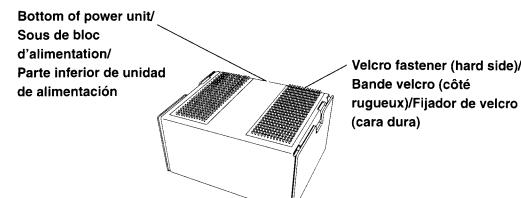

Fig. 6/Schéma 6/Fig. 6
- 1 Attach the Velcro fastener (hard side) ⑪ to the bottom of the power unit ② (see Fig. 6).
- 2 Attach the Velcro fastener (soft side) ⑪ to the floor, and secure the power unit ②.
- *When attaching the Velcro fastener (hard side) ⑪ to the floor carpet, do so without the Velcro fastener (soft side) ⑪ attached.*